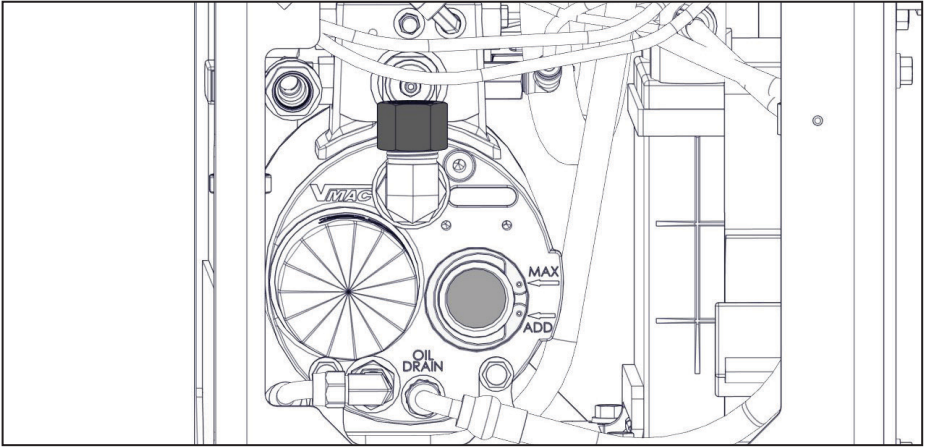

Figure 33 — Compressor oil fill
- ☐ Remove the filler cap on the WHASP Tank. Fill the WHASP Tank with VMAC compressor oil until it reaches the "MAX" mark. The air compressor system holds approximately 4 L (1 USG) of oil (Figure 33).